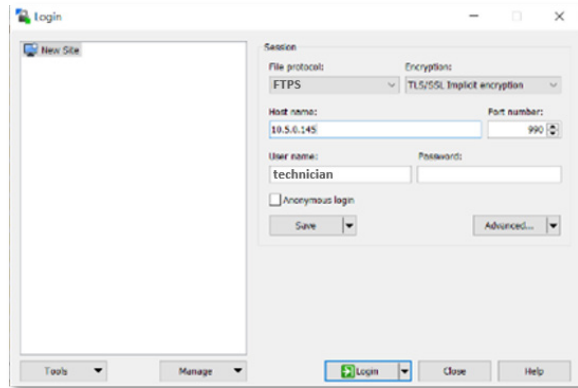

Figure 103: Enter 'technician' as the user name in the FTPS client connection.
2. Enter 'technician' as the FTPS user name as shown in **Figure 103**, enter the password as defined in the maintenance menu, and then click **Log On** or **Connect**.